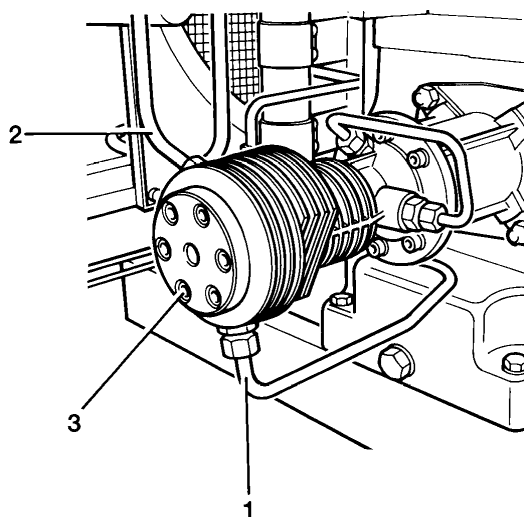
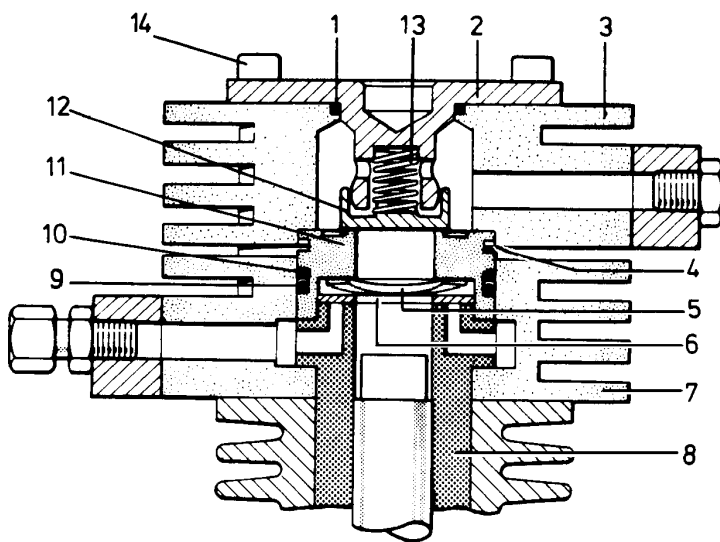

Fig. 45 Cylinder and valve head, 4th stage
Fig. 46 Valve head and valves, 4th stage
The 4th stage valves are located in the 4th stage valve head, Fig. 45.
The inlet valve merely comprises a valve disk (6, Fig. 46) and a wavy washer (5). The inlet valve seat is machined directly into the cylinder liner (8) of the 4th stage piston. The discharge valve consists of the valve seat (11), valve disk (12), valve spring (13), and stroke limiter (2).
The procedure for removal and reinstallation of the valves is as follows (see Fig. 46):
- Loosen the inlet and discharge pipe on the valve head (1 and 2, Fig. 45).
- Loosen and remove valve head screw (3, Fig. 45; 14, Fig. 46).